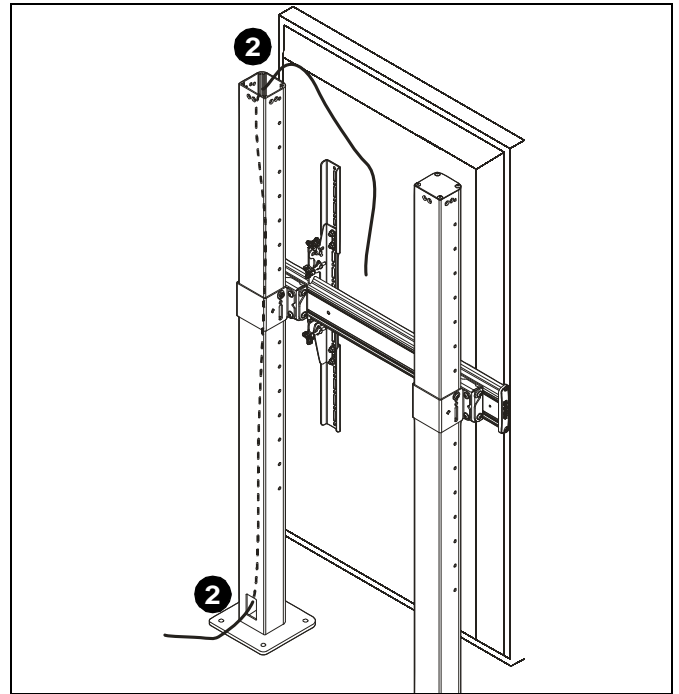

Figure 15
2. Cables may be routed through tops of columns and out through the back cable management hole. (See Figure 15)